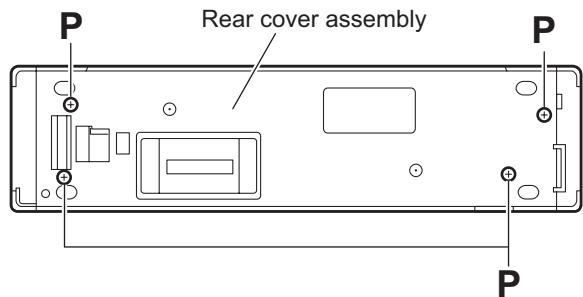

Fig.14
(See Figs.14 to 16)
- From the rear side of the front panel assembly, remove the four screws **P** attaching the rear cover assembly to the front panel assembly. (See Fig.14.)